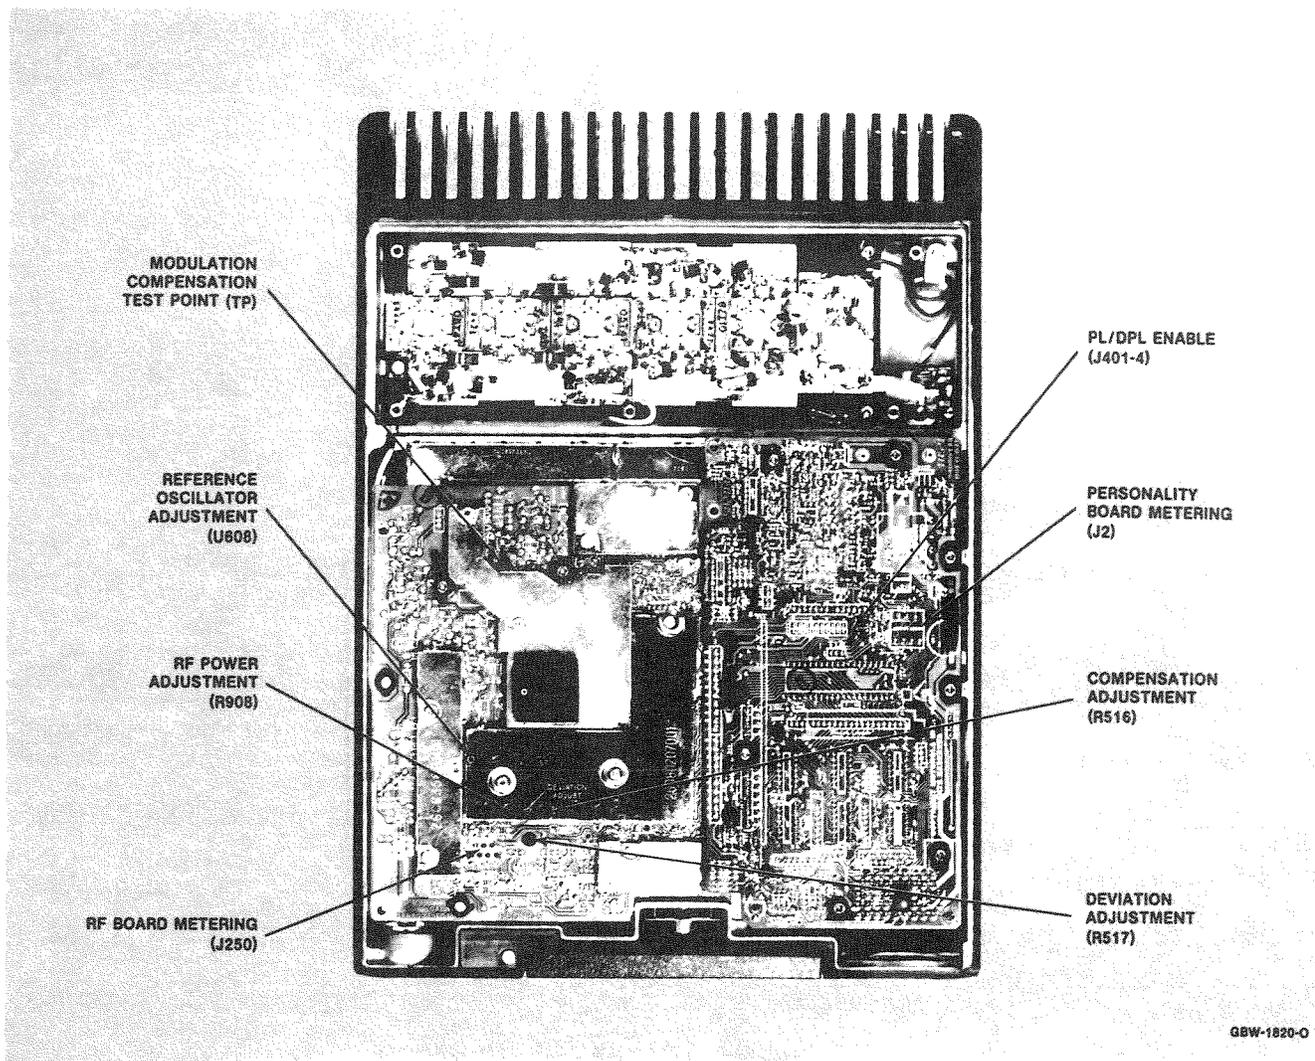

Figure 1. Radio Adjustment Locations (Top View)
2.1.2 The oscillator frequency, deviation, modulation compensation, and transmitter power can be adjusted through directly accessible holes on the RF board, as shown in Figure 1.
- (1) Set the mode selector switch to Mode 1.
- (2) Using the portable test set, key the transmitter without modulation. On tone and *Digital Private-Line* radios, disable the encoder output by shorting the PL/DPL ENABLE line (J401-4) to ground. J401-4 is on the personality board.
- (3) Adjust the reference oscillator (U608) warp control (Figure 1) until the proper indication shows on the frequency meter.
(1A) (For PL or DPL radios only) Turn the deviation potentiometer (Figure 1) one-half turn clockwise.
(3) (For PL or DPL radios only) Connect the center lead of the shielded cable of an ac voltmeter to the modulation compensation test point (Figure 1) and connect the shield to the radio ground (A -). Set the voltmeter to the 1-mV range.
All the transmitter adjustments described in the following procedure can be performed from the bottom of the radio, through the holes in the common circuits board. (See Figures 1 and 2.)
3.1.3 You can reach the rest of the radio by removing the four screws that secure the skid plate to the bottom of the radio. This gives you access to the metering socket of the common circuits board (J952). The common circuits board is hinged so that turning it on its hinge gives you access to its component side as well as to the component side of the RF board. (See Figures 1 and 2 in the Description Section of this manual.) To turn the common circuits board on its hinge, remove two screws on the board as well as one additional screw on the regulator heat sink.